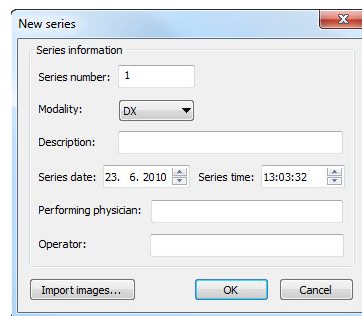

Figure 288 – New series dialog
3. Fill information about new series in the **New series** dialog (see Figure 288) and click on the **OK** button.
3. Fill information about new series in the **New series** dialog (see Figure 288).